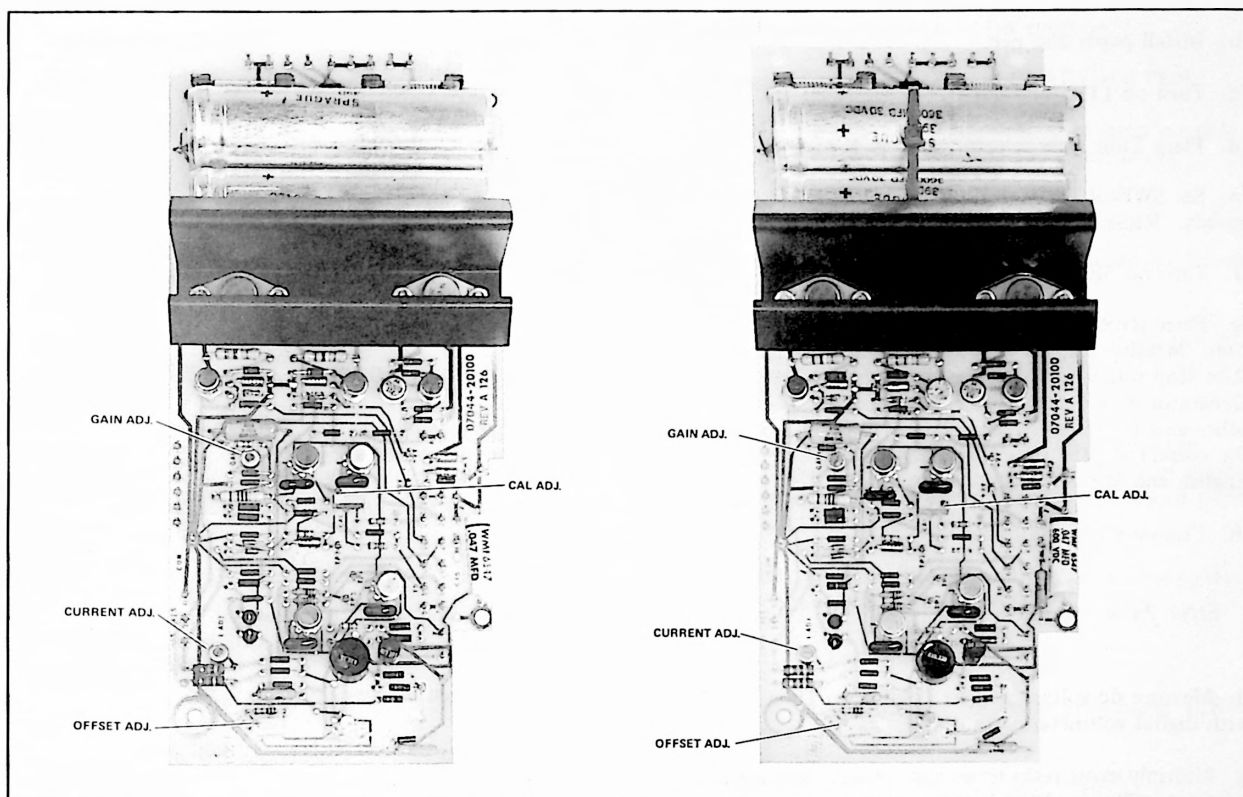

Figure 5-19. Calibration Adjustment
- g. Adjust CAL control (A3R22-7044A) (A3R24-7045A) on X-axis DC Amplifier Board. See Figure 5-19.
- m. Adjust CAL control (A2R22-7044A) (A2R26-7045A) on Y-axis DC Amplifier Board. See Figure 5-19.
- c. On X-axis Amplifier Board, measure voltage between TP1 and circuit common using a Digital Voltmeter. Adjust potentiometer marked OFFSET until voltage is $0\text{ V} \pm 10\text{ mV}$. See Figure 5-19.
e. Adjust potentiometer marked I ADJ on X-axis Amplifier Board until voltage at TP1 returns to $0\text{ V} \pm 10\text{ mV}$. See Figure 5-19.
5-96. A potentiometer marked GAIN is provided on each Amplifier Board. Normal setting is in center of adjustment span. If axis fails resettability specification (see paragraph 5-45, Resettability) increase gain by turning GAIN potentiometer clockwise. If servo oscillates, turn potentiometer counterclockwise to decrease amplifier gain. See Figure 5-19.